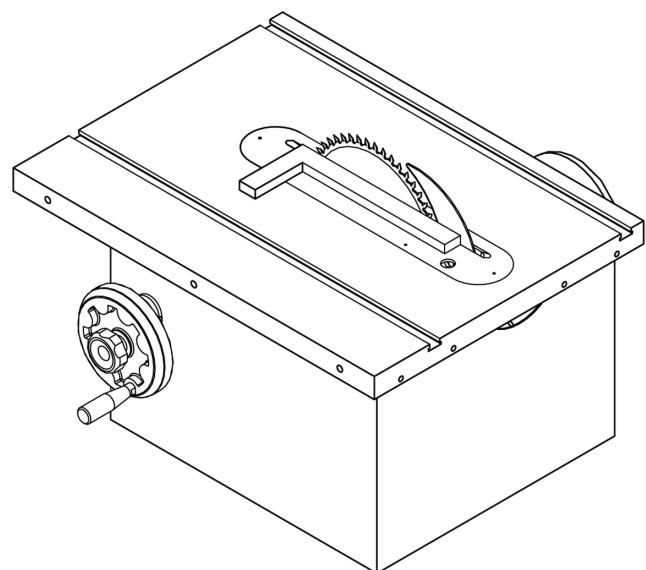

Fig. 15 (checking riving knife alignment)
3. Check both sides of the blade with a straight edge touching the teeth as shown in Figure 15: